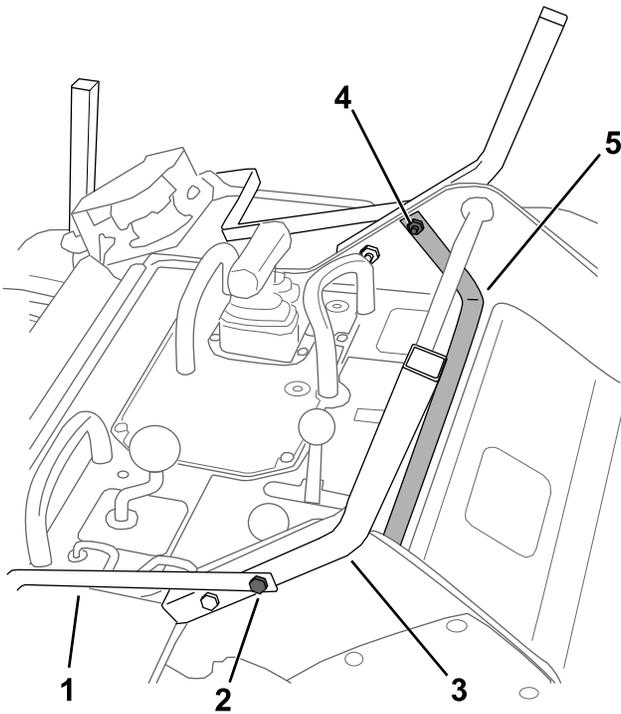
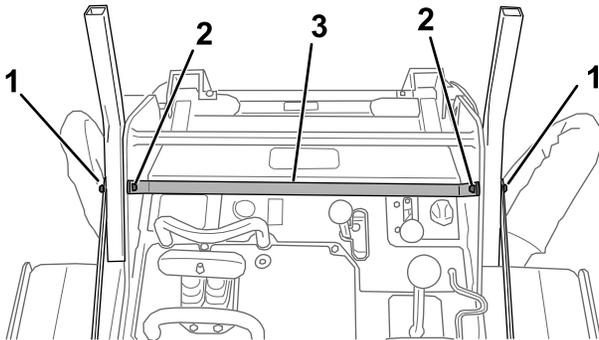

Figure 3
Figure 4
6. Install the windshield bracket, using the 2 bolts (1/4 x 2 inches) and 2 locknuts (1/4 inch) to also secure the front receiver tubes and the hose guards to the frame (Figure 3 and Figure 4).